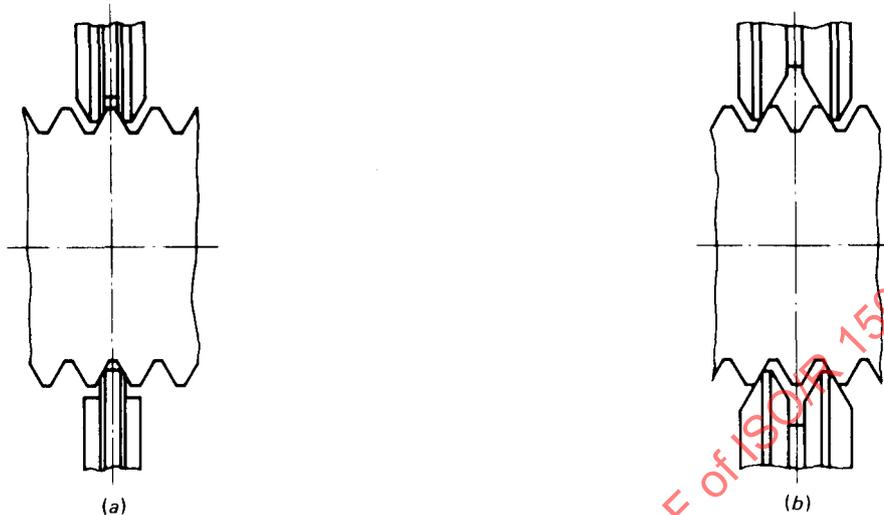

FIG. 10 - NOT GO screw calliper gauge
10.1.5 *NOT GO screw calliper gauge.* Each anvil of the NOT GO screw calliper gauge should be so designed that it contacts the workpiece thread on no more than two flanks (see Fig. 10). On fine pitch gauges these flanks should be situated not more than three pitches apart.
If the gauge corresponds to Figure 10 (b) each gauging should be repeated by displacing the gauge from one pitch to the other.